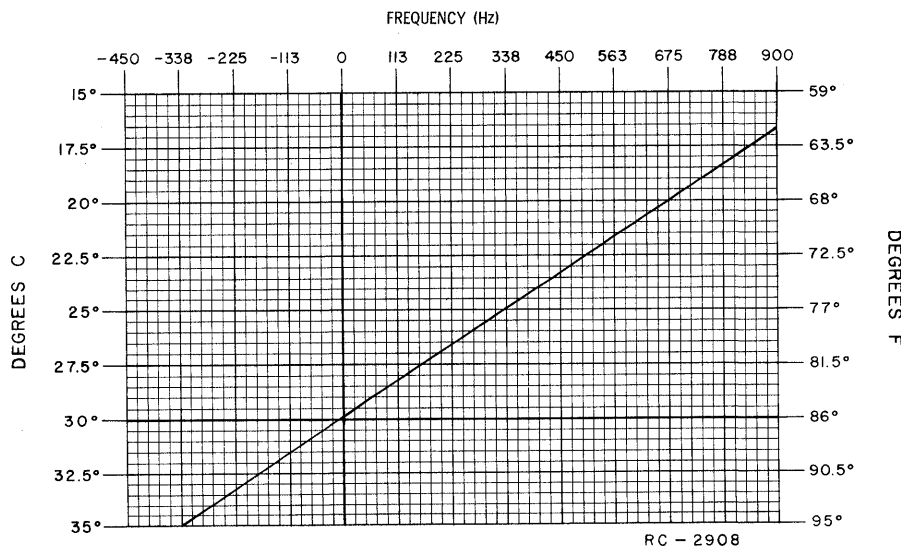

Figure 6 - Frequency Offset Chart
- 2. Maintain the radio at 30°C (+5°C, -15°C) offset the operating frequency as a function of actual temperature, by the amount shown in Figure 6.